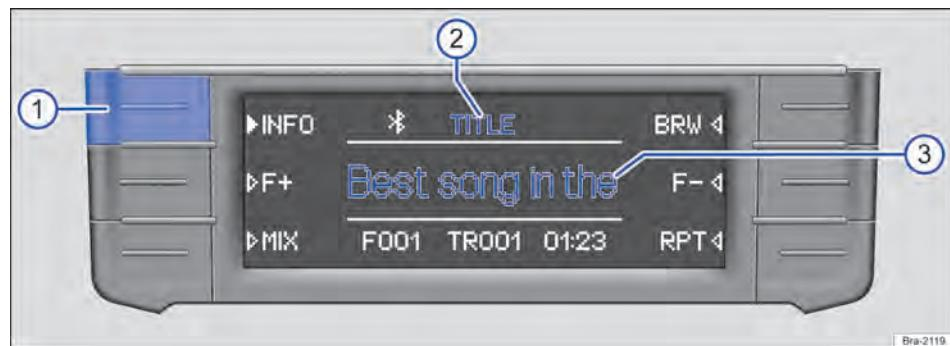

Fig. 146 Example of media playback display: track information on an MP3 CD played.
When audio CDs without CD text are playing, the central line of the screen → Fig. 146 ③ displays only TRACK and the track number corresponding to the playing order on the data storage unit.
The type of information regarding the selected track is displayed on the upper line centre (e.g. TITLE → Fig. 146 ②).
- Briefly press the function button [INFO] → Fig. 146 ① to change the type of track information displayed on screen.
Display → Fig. 146 ②
Track information → Fig. 146 ③